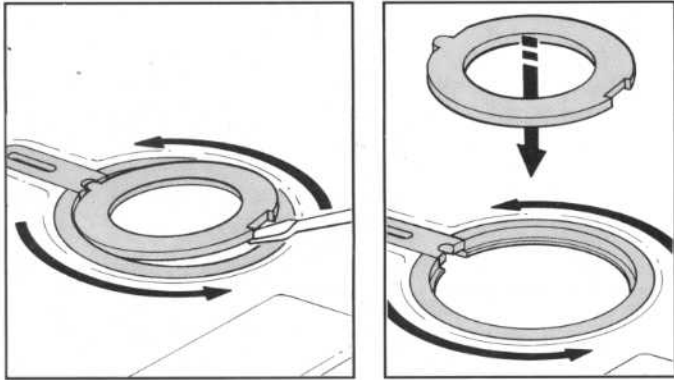

FIGURE 8
7. When using cutters larger than 38 mm diameter (up to a maximum of 65 mm diameter), remove the reducing ring fitted to your router table. Lever it out using a large flat screwdriver as shown. Always fit the reducing ring when working with cutters smaller than 38 mm. It snaps into place when pressed down firmly. **Figure 8.**